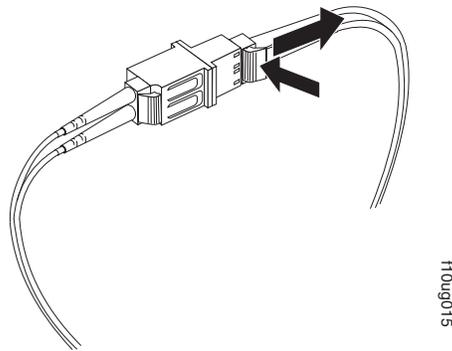

Figure 33. Removing the LC-LC fibre-channel cable from an LC-SC fibre-channel cable adapter
2. Carefully pull on the connector to remove it. Make sure you grasp the connector and not the cable when removing the LC-LC cable from the LC-SC cable adapter as shown in Figure 33.